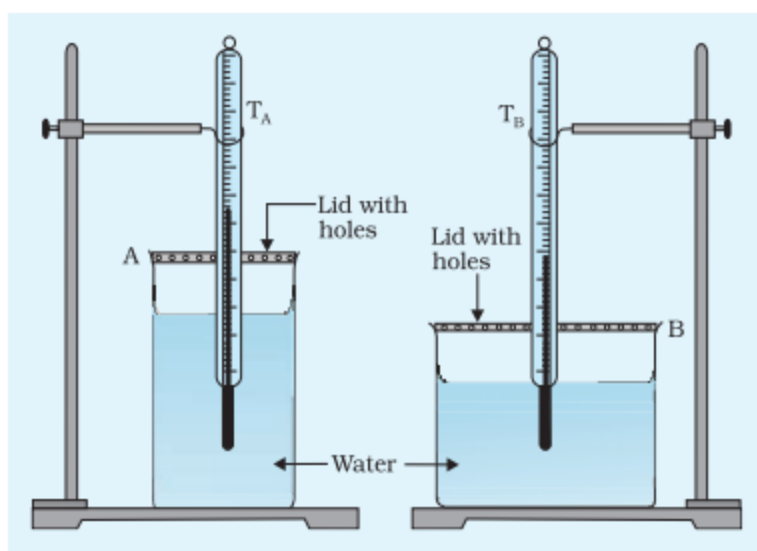

Fig. A 12.1: Experimental set up for studying the effect of surface area on cooling
2. Take the big (A) and small (B) calorimeters.
4. Pour 100 mL of hot water in calorimeter (A) and also in calorimeter (B). This should be done carefully and with least time loss. One can use a plastic mug to pour 100 mL of hot water in a measuring cylinder.
5. Insert a thermometer in each of the two calorimeters. Use stands to keep the thermometers vertical. Also ensure that the thermometer bulb is well inside the hot water in the calorimeters (Fig. A 12.1).